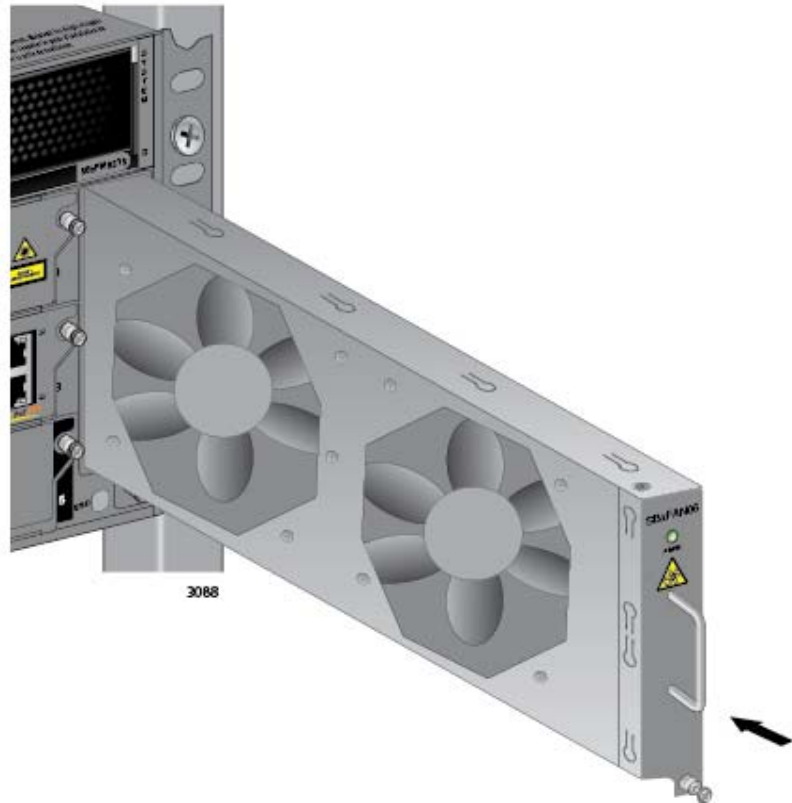

Figure 194. Installing a New AT-SBxFAN06 Fan Module
1. Orient the new module with the LED and module name on top and carefully slide the module into the slot in the chassis. Refer to Figure 194 on page 314.